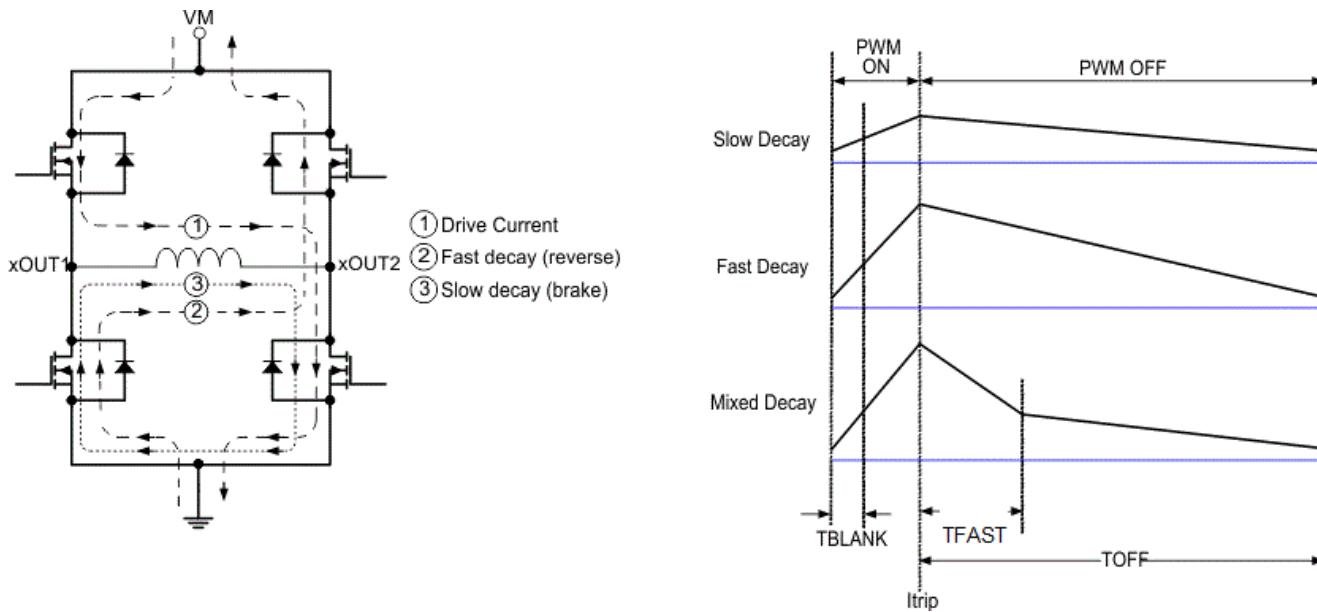

Figure 7-5. Decay Modes
During PWM current chopping, the H-bridge is enabled to drive through the motor winding until the PWM current regulation threshold is reached. This is shown in Figure 7-5, Item 1.
Once the current threshold is reached, the H-bridge can operate in two different states, fast decay or slow decay. In fast decay mode, once the current level has been reached, the H-bridge reverses state to allow winding current to flow in a reverse direction. The opposite FETs are turned on; as the winding current approaches zero, the bridge is disabled to prevent any reverse current flow. Fast decay mode is shown in Figure 7-5, item 2. In slow decay mode, winding current is re-circulated by enabling both of the low-side FETs in the bridge. This is shown in Figure 7-5, Item 3.